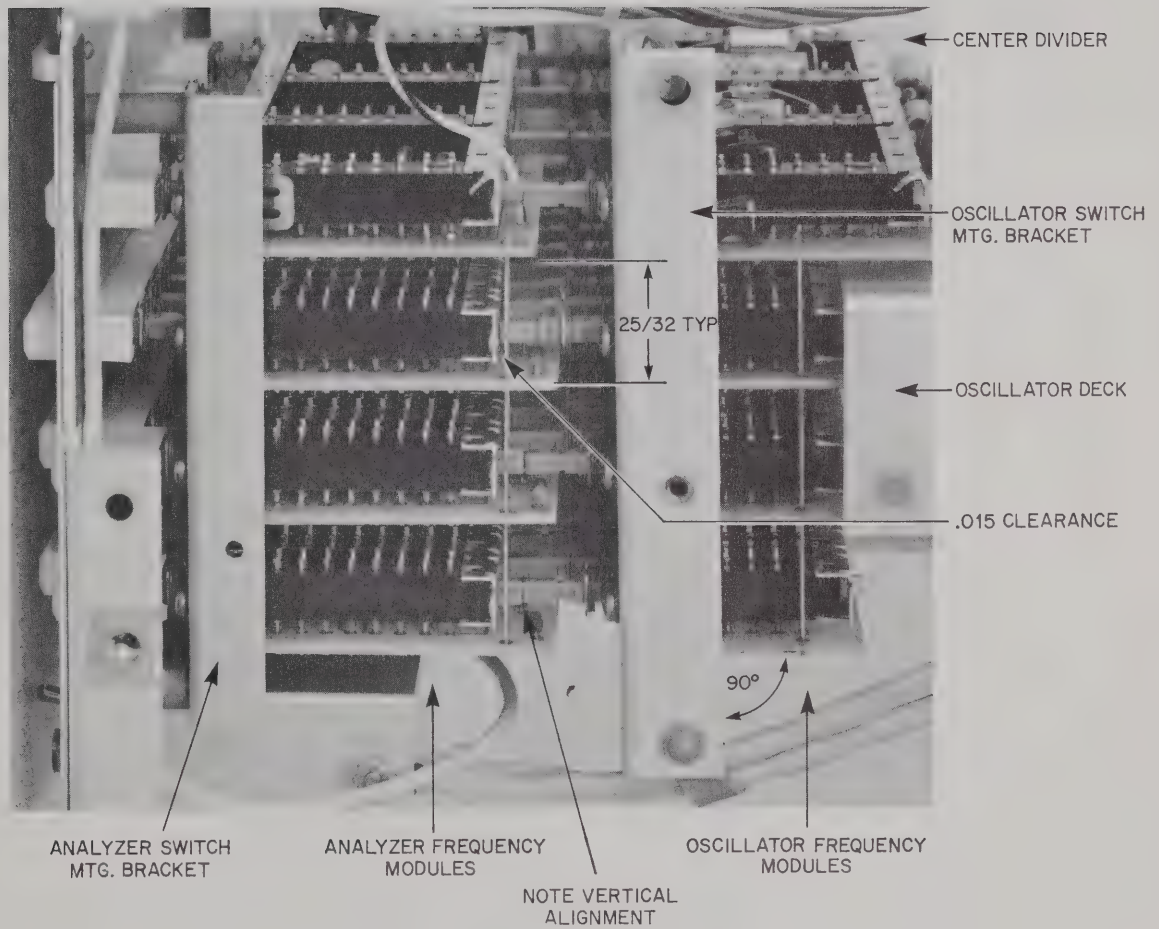

FIG. 3-2
2. When replacing oscillator portion of frequency module, line up pushbars vertically with the rear of the pushbars of the analyzer section. Ensure also that there is a .015 inch clearance between the analyzer and oscillator pushbars, with the pushbuttons in undepressed position. See Figure 3-2 for details.